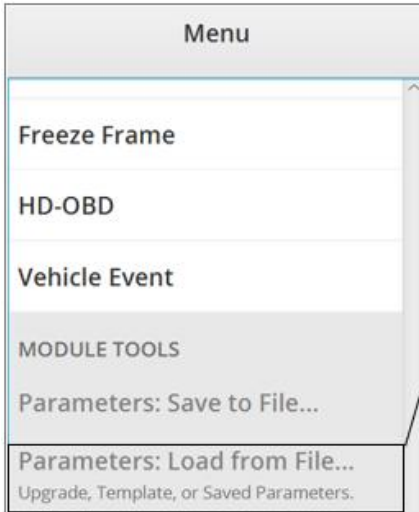

Figure 2. SDS Menu Tab
11. Click Menu/Parameters/Load from File (figure 2, Item 1)